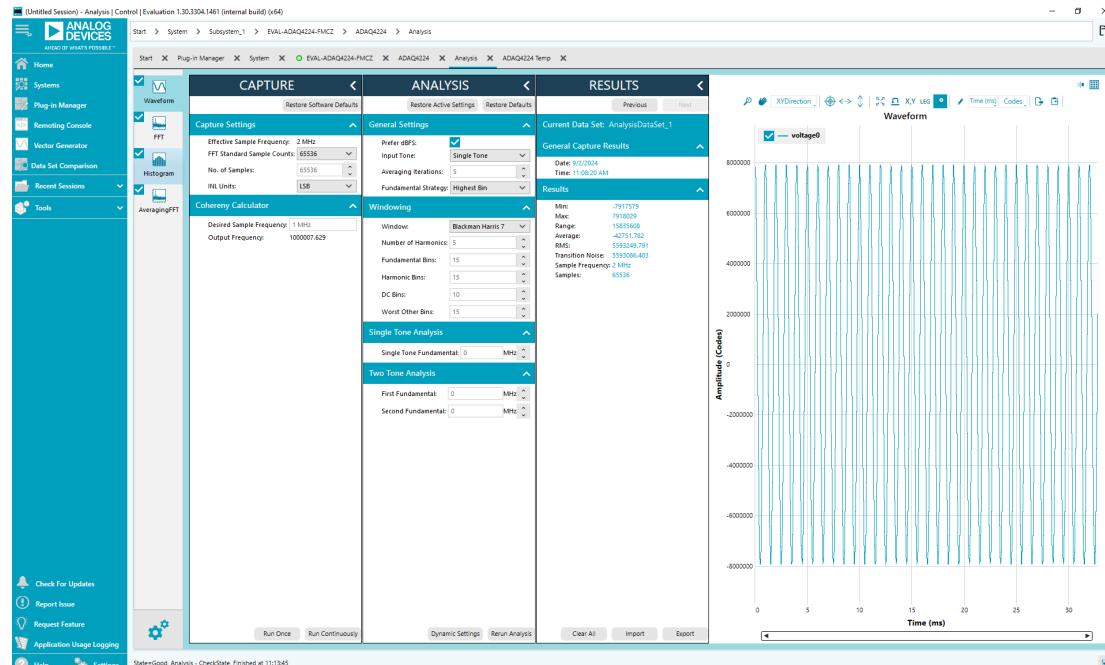
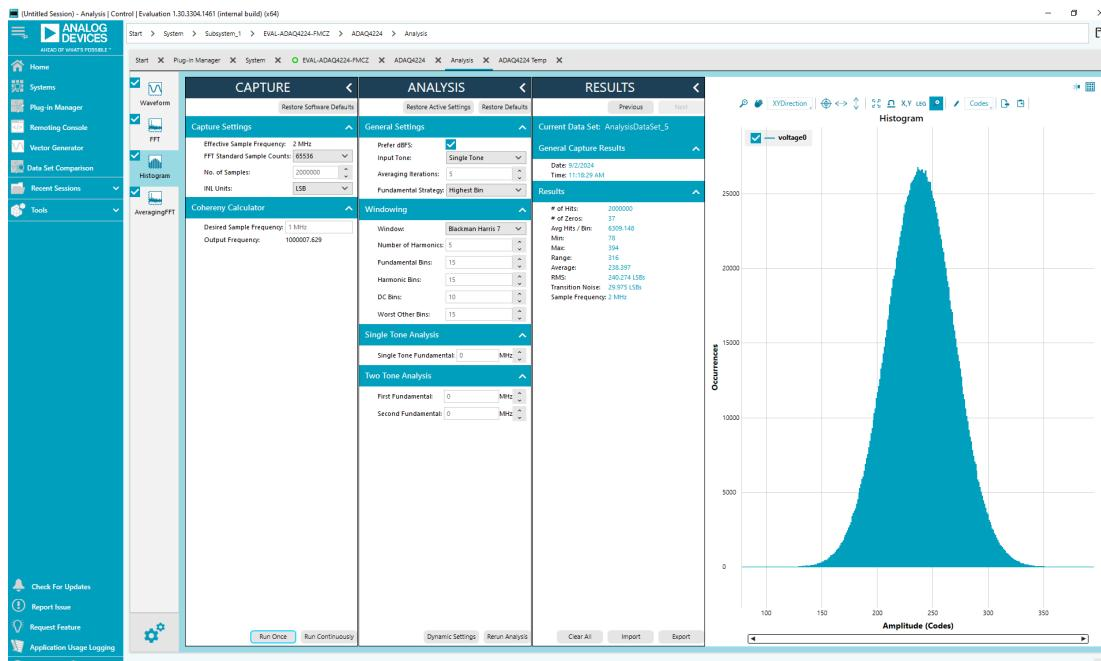

Figure 13. Analysis Tab, Waveform Display (1 kHz, -0.5 dBFS Input Signal)
Figure 15. Analysis Tab, Histogram Display (Grounded Inputs)
6. Click **Proceed to Analysis** button to open **Analysis** tab. In the **Analysis** tab, the data capture displays as a waveform, an FFT, and in a histogram, as shown from Figure 13 to Figure 15.
The **RESULTS** pane shows the relevant performance calculations specific to the selected capture tab whether it is in waveform, FFT, or in histogram. For more details, see the **RESULTS** pane from Figure 13 to Figure 15.
The **Waveform** tab displays the discrete data vs. time with the results, as shown in Figure 13.
The Histogram tab contains the Histogram graph and the **RESULTS** pane, as shown in Figure 15. The **RESULTS** pane displays the information related to the DC performance. The Histogram graph displays the number of hits per code within the sampled data. This graph is useful for DC analysis and indicates the noise performance of the device.